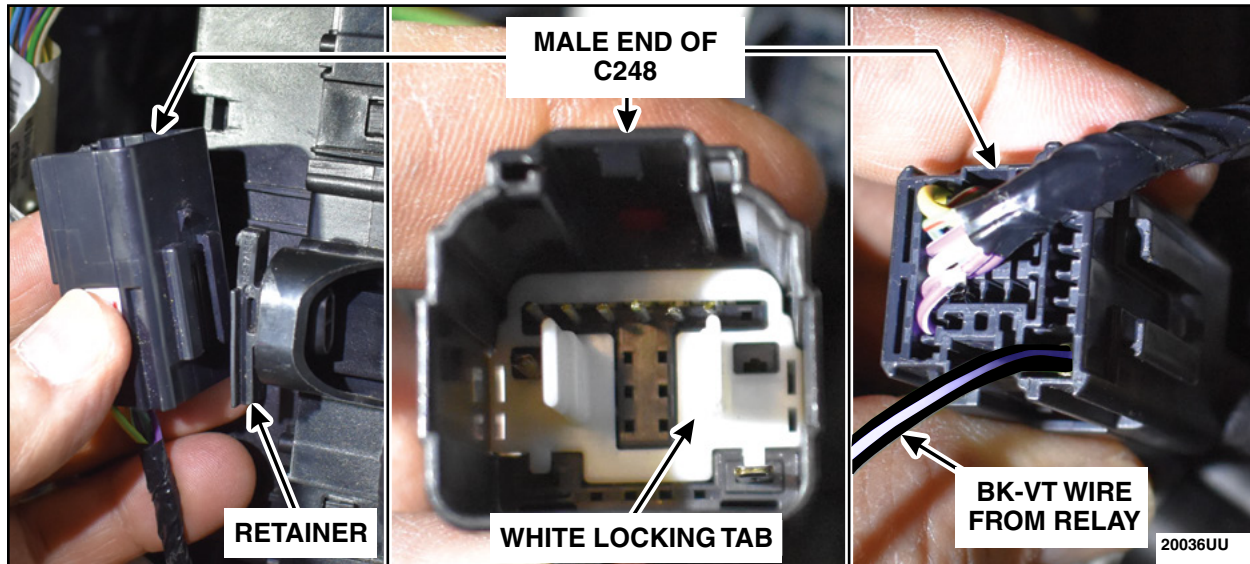

FIGURE 47
64. Detach the male end of C248 from the BCM retainer. Remove the white locking tab and install the BK-VT wire from the relay into Pin 21 for a black connector or pin 2 for a grey connector. Reinstall the white locking tab, attach C248 to the BCM retainer and reconnect C248. See Figure 47.